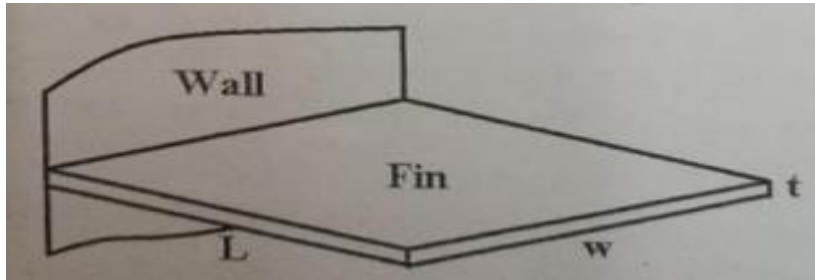

Fig 7.b.
b) A metallic fin with thermal conductivity K= 360 W/m °C, having length L= 0.1m, width w= 1m and thickness t= 0.001m as shown in figure 7 b extends from a plane wall whose temperature is 235°C. Assuming the tip of the fin to be insulated, all other surfaces are exposed to surrounding air which is having a